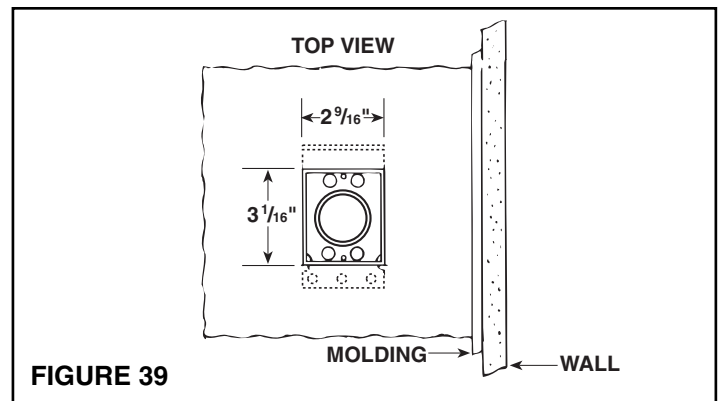

FIGURE 39
1. Refer to Figures 39 and 40. After floor inlet location has been selected, cut a $3\frac{1}{16}$ " x $2\frac{9}{16}$ " square hole in floor. Center line of inlet must be located at least $2\frac{1}{2}$ " from wall to allow cover to be opened when hose is inserted.
2. Determine direction of tubing and attach appropriate flanged fitting to mounting bracket with four (4) screws supplied. **Be sure mounting bracket flange does not interfere with tubing and seal is securely in place.**